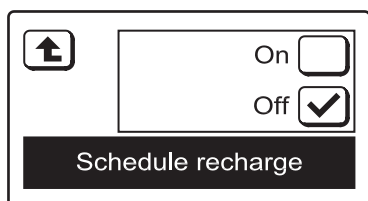

FIG. 40
4. Press the SCHEDULE RECHARGE button. The display will change to show the screen in Figure 40.